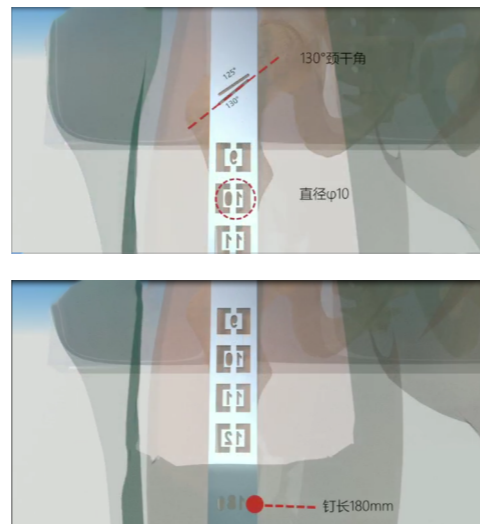

Figure 2a
- Determine the specifications of the main nail (Figure 2a).